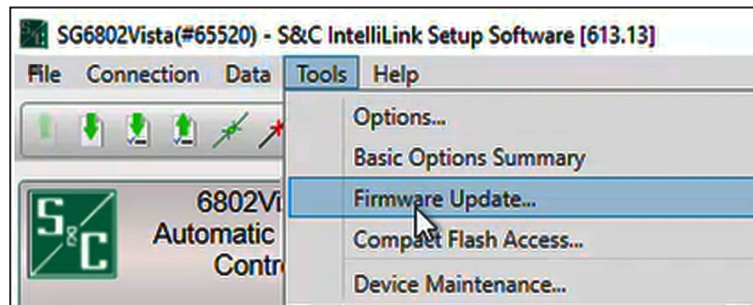

Figure 17. The Tools>Firmware Update menu option.
STEP 6. In the **Tools** menu on the menu bar, click on the **Firmware Update** menu option. See Figure 17.